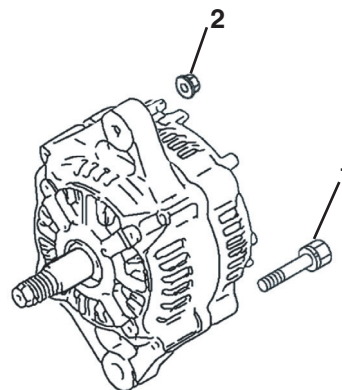

Figure 12-8
- Remove the two bolts (**Figure 12-8, (1)**) and two nuts (**Figure 12-8, (2)**) securing the rear frame housing to the front frame housing.